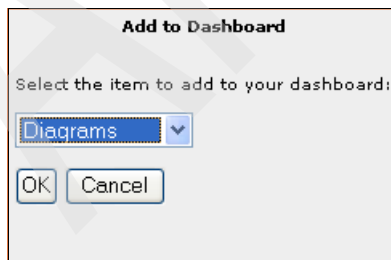

Figure 8-150 Selecting a view
6. In the Add to Dashboard panel (Figure 8-150), select **Diagrams** and click **OK**. The Diagrams view is added to OrderHandling page.